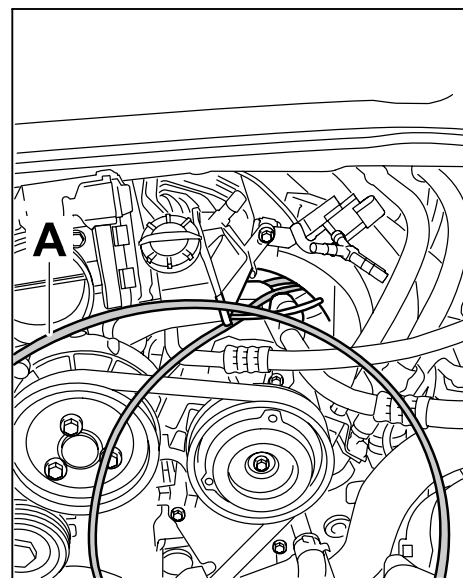

Figure 7
- 3.1.1 Auxiliary line (⇒ *Figure 7 -A-*) for right rear muffler (997.111.611.00):